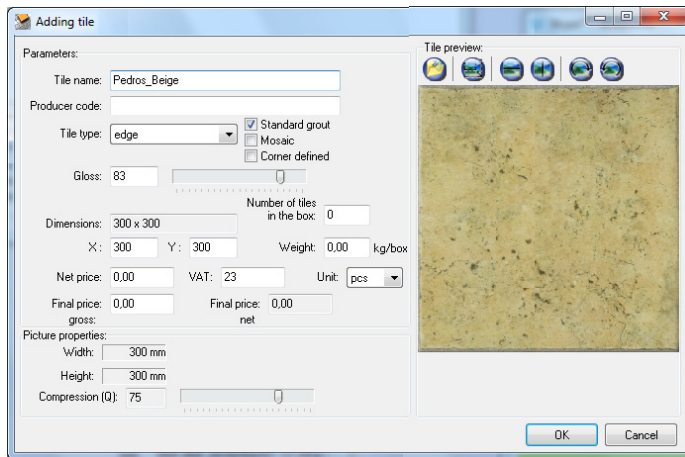

Fig. 377 – adding a new tile to the User Database
- **Add a new tile to the selected collection** – adds new tiles to the **User Database** (also under **<Ctrl + N>**); in the newly opened dialog necessary data about a tile should be entered (Fig. 377).